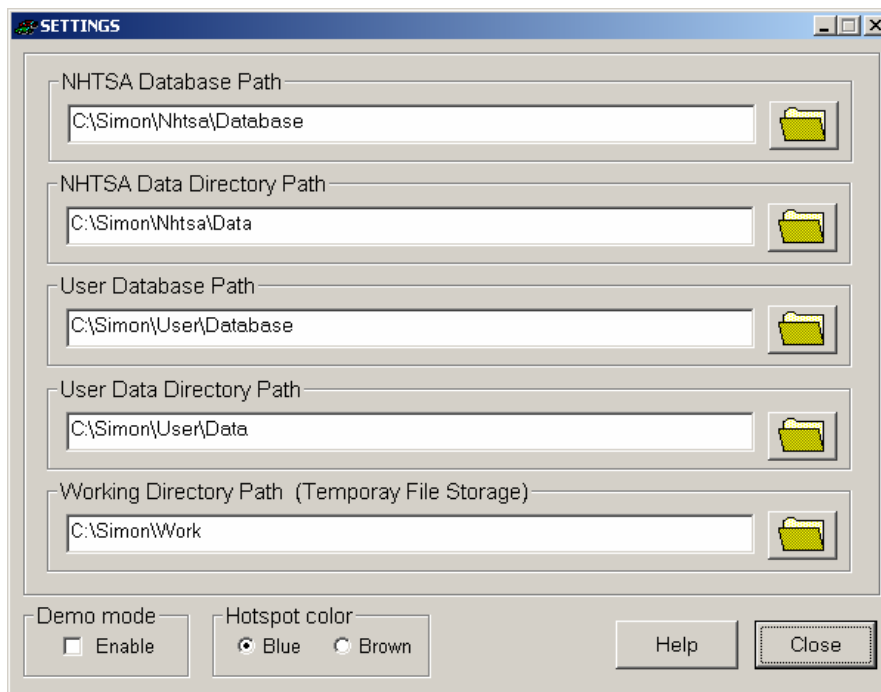

Figure 7.
SIMon requires specification of several directory paths, in order to manage different types of data. Generally, the user need not be concerned with these paths, since the *SIMon* installation will assign default paths as subdirectories in a single user-specified installation directory. If the user wishes to control these paths, the *SETTINGS* dialog, shown in Figure 7, should be employed. This dialog can be displayed by clicking on the **Settings** button in the NAP applet (Figure 3). The *SETTINGS* applet includes provision for user entry of five directory paths pertaining to the: (1) NHTSA database, (2) NHTSA trace data, (3) user database, (4) user trace data, and (5) working directory for *SIMon*. The user database, user trace data and working directories must not correspond to read-only storage media. The NHTSA database and trace data can be supplied on CD-ROM media.